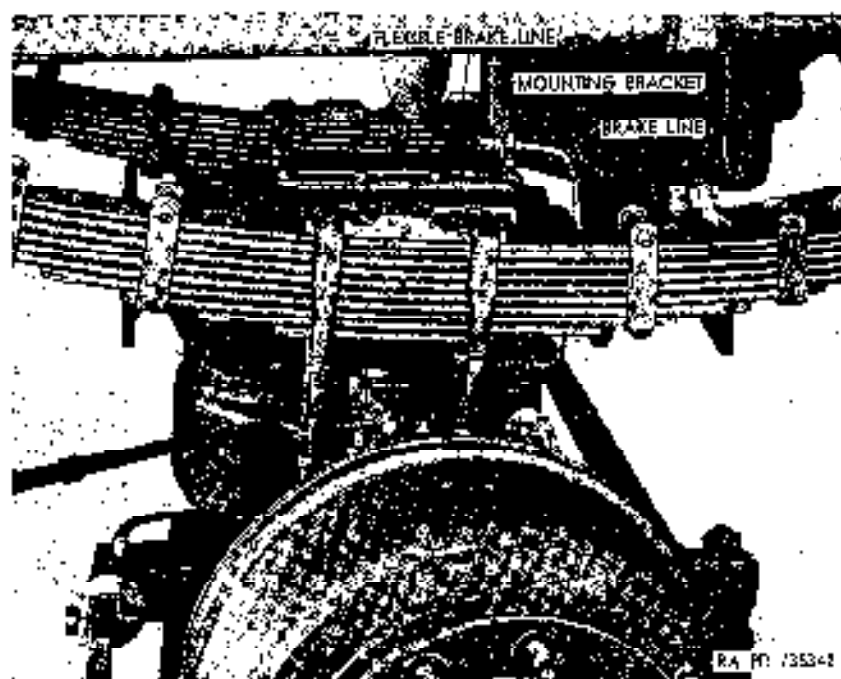

Figure 227. Front axle lowered for disconnecting flexible brake line.
- (9) *Remove front axle* (fig. 227). Lift the four U-bolts, two on each front spring, free of the spring seats, and lower hydraulic jack sufficiently to allow removal of axle from under truck. Pull jack with axle assembly forward and out from under front of truck. Remove spring seats from axle assembly.
- (1) *Position front axle.* With front axle supported by hydraulic jack (fig. 227) in lowered position, push jack and axle assembly under front of truck. Place left and right spring seats on axle, and making sure that all U-bolts are properly aligned and that spring center bolt heads enter alignment holes in spring seats, raise axle sufficiently to permit assembly of brake lines.